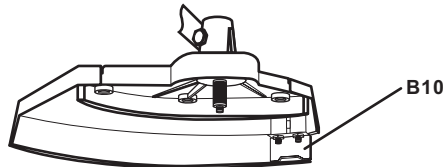

Fig. 17f
10. A line cutter (B10) is integrated with the trimming guard (B9) and this will cut the line to the necessary length. (See Fig. 17f)